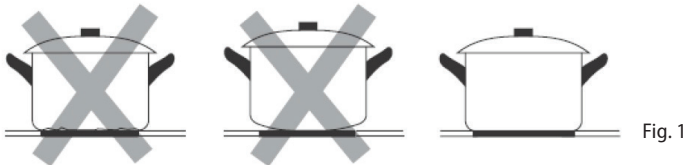

Fig. 1
- Do not use cookware with bulging or irregular bottoms (Fig. 1) or otherwise the cooking effectiveness could be reduced and may result in extension of the cooking time.